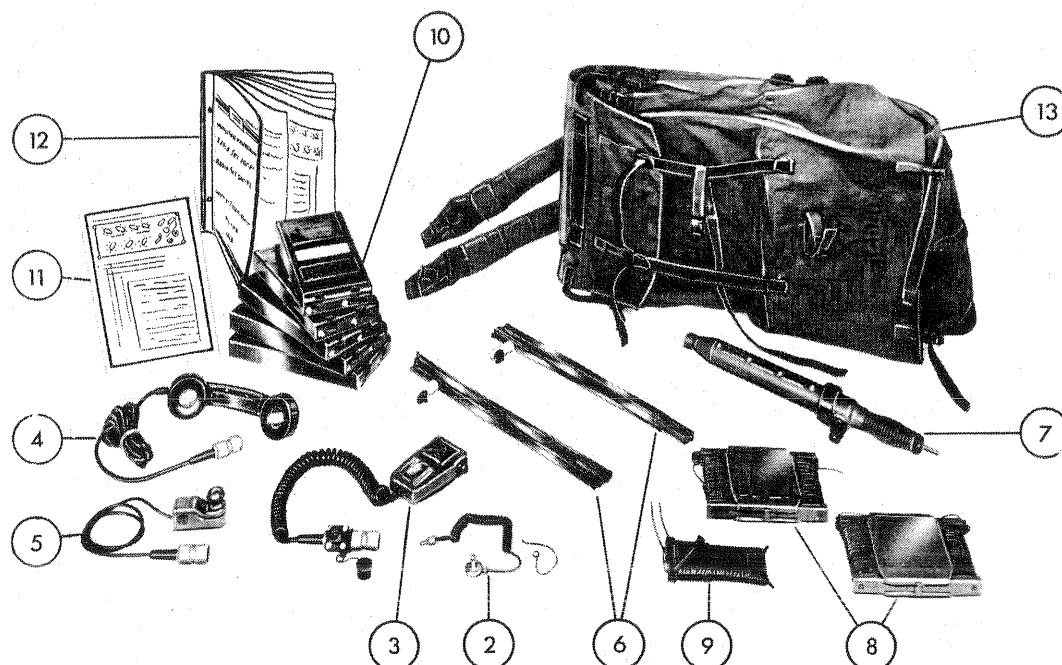

FIG 2 - MINOR COMPONENTS, RADIO SET PRC-F1
9. The minor components, as listed in Table 1, are shown in Fig 2.